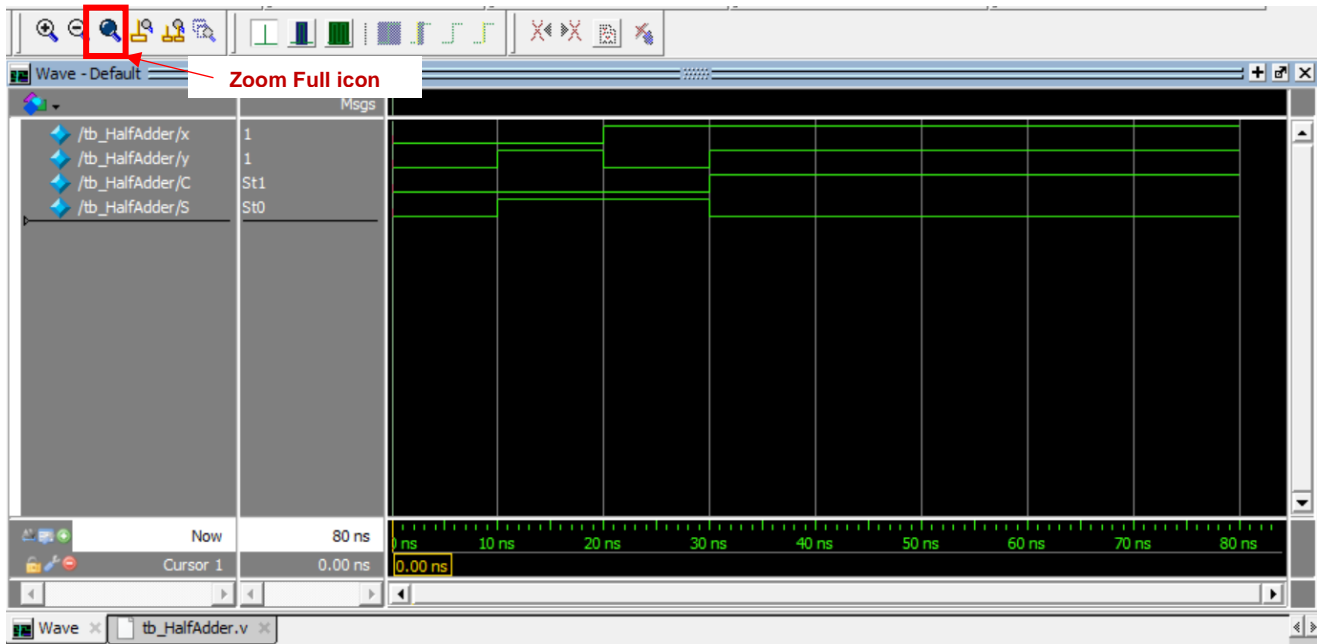

Figure 7. Wave Window
- Click the **Wave** window to view the signals in the simulation waveform, as shown in Figure 7. Click the **Zoom Full** icon to see the entire simulation time.